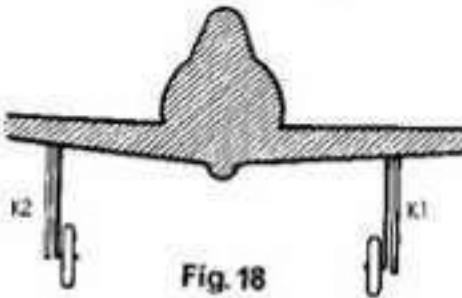

FIG. 15
STEP 8. Mark pattern as indicated in FIG. C on balsa nose block. Cut out circular nose block using heavy black line as the cut line. Dotted line is position guide for gluing M 1 and M 2 to form cowling. Note side view of FIG. C, you will see the nose tapers. Carve and sand nose block neatly then glue W 1 and M 2 to nose block and sand to shape as in FIG. A. Glue on W 3 and W 4. Check for proper fit to former A. Mark position for nose button, drill and fit bug DO NOT GLUE IT. Glue nose block to former A, for scale propeller version see Fig. 21 and skip STEP. 15 and Fig. 15.
STEP 15. Insert propeller, button, hook and rubber band (cut to length and tied with square knot) into fuselage tube. Fasten rubber band at rear with dowel thru F 7 (Fig. 15).